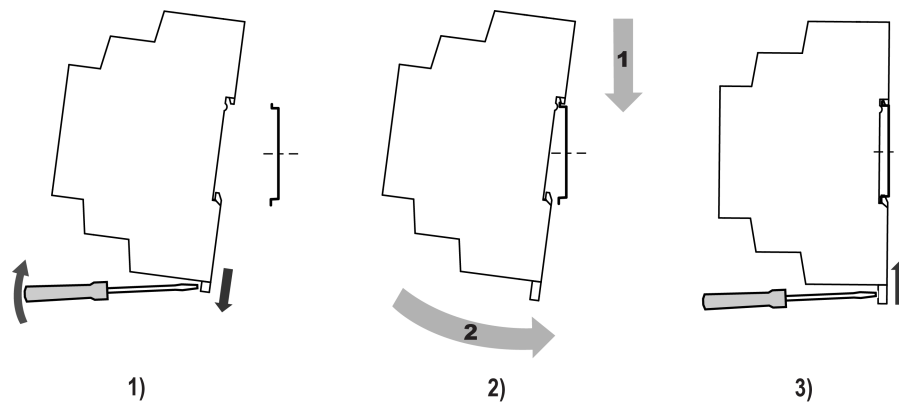

Fig. 5.2 DIN rail mounting
2. Insert a screwdriver into the eyelet of the slide interlock and then pull it down to loosen the slide interlock (see Fig. 5.2, 1). Position the device onto the DIN rail.
3. Press the device firmly against the DIN rail in the direction of arrows 1 and 2 (see Fig. 5.2, 2). Using a screwdriver, pull up the slide interlock to lock it.